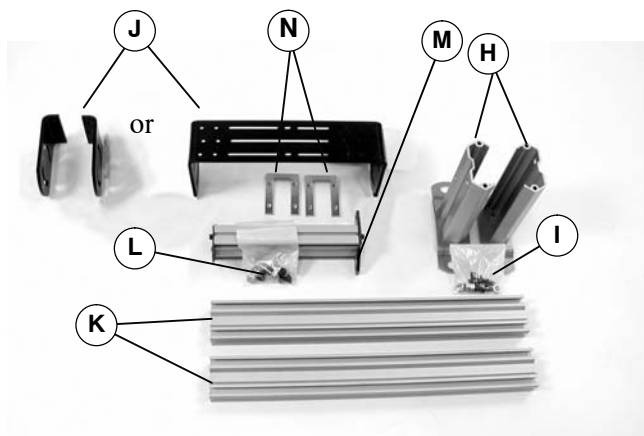

Figure 2
1. Typical components (Figure 2).
2. Open standard stand hardware pack (I of Figure 2).